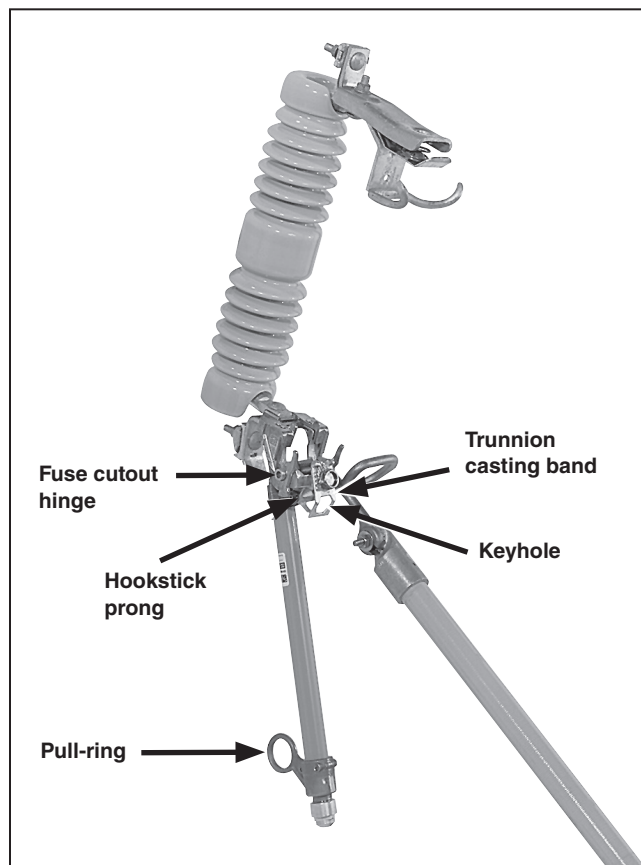

Figure 6. Installing the fuse tube.
- STEP 2.** Guide the fuse tube into the fuse cutout hinge, as shown in Figure 6, and disengage the hookstick.
Following an opening operation using a Loadbuster tool, the fuse tube can be lifted out of the fuse cutout hinge using a universal pole equipped with a suitable fuse-handling fitting, such as a Talon Handling Tool or a distribution prong. See Figure 6 on page 11.